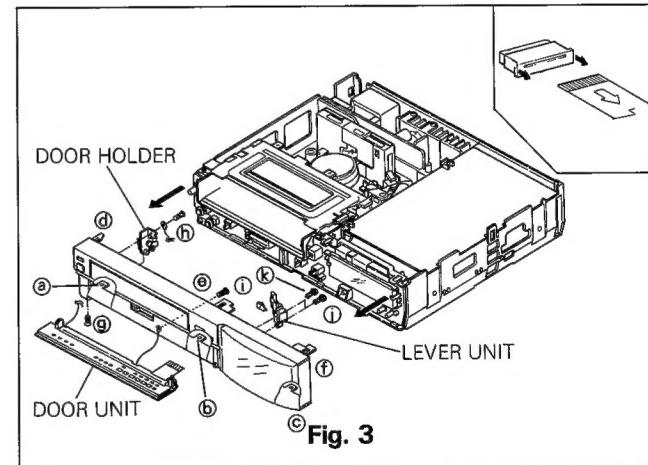

Fig. 3
- D. Disconnect the ribbon cable by gently lifting cover Ⓚ on the socket housing as shown in Fig. 3.